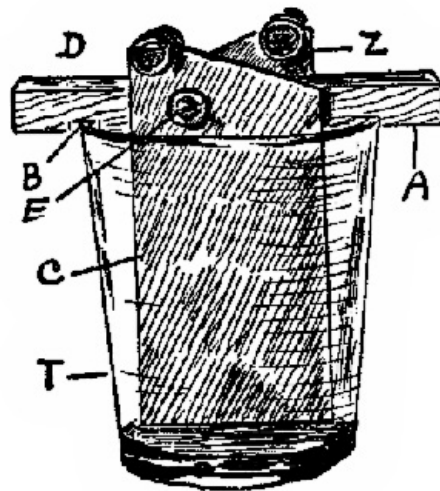

Fig. 5.
**6. Experimental Cell.** Fig. 5. Cut a strip each of copper, *C*, and zinc, *Z*. (See list of materials.) They should be about 2 in. wide and 4 in. long. Punch a hole through each, one side of the center, for screws, *E*. The wooden cross-piece, *A*, should be  $4\frac{1}{2} \times 1 \times \frac{7}{8}$  in. The battery-plates, or elements, should be screwed to this, taking care that the screws, *E*, do not touch each other. If the holes are made in the position shown in Fig. 5, the screws can be arranged some distance apart.
**16. Storage Battery.** To show the principle of storage batteries it is only necessary to use two plates of lead dipped in the battery fluid of App. 14. The cell may be made as in App. 5, Fig. 5, the only difference being that both plates are of sheet-lead. It will be an advantage to make the plates rough by hammering against them a coarse file. (See explanations and experiments with this form of cell in text-book.)